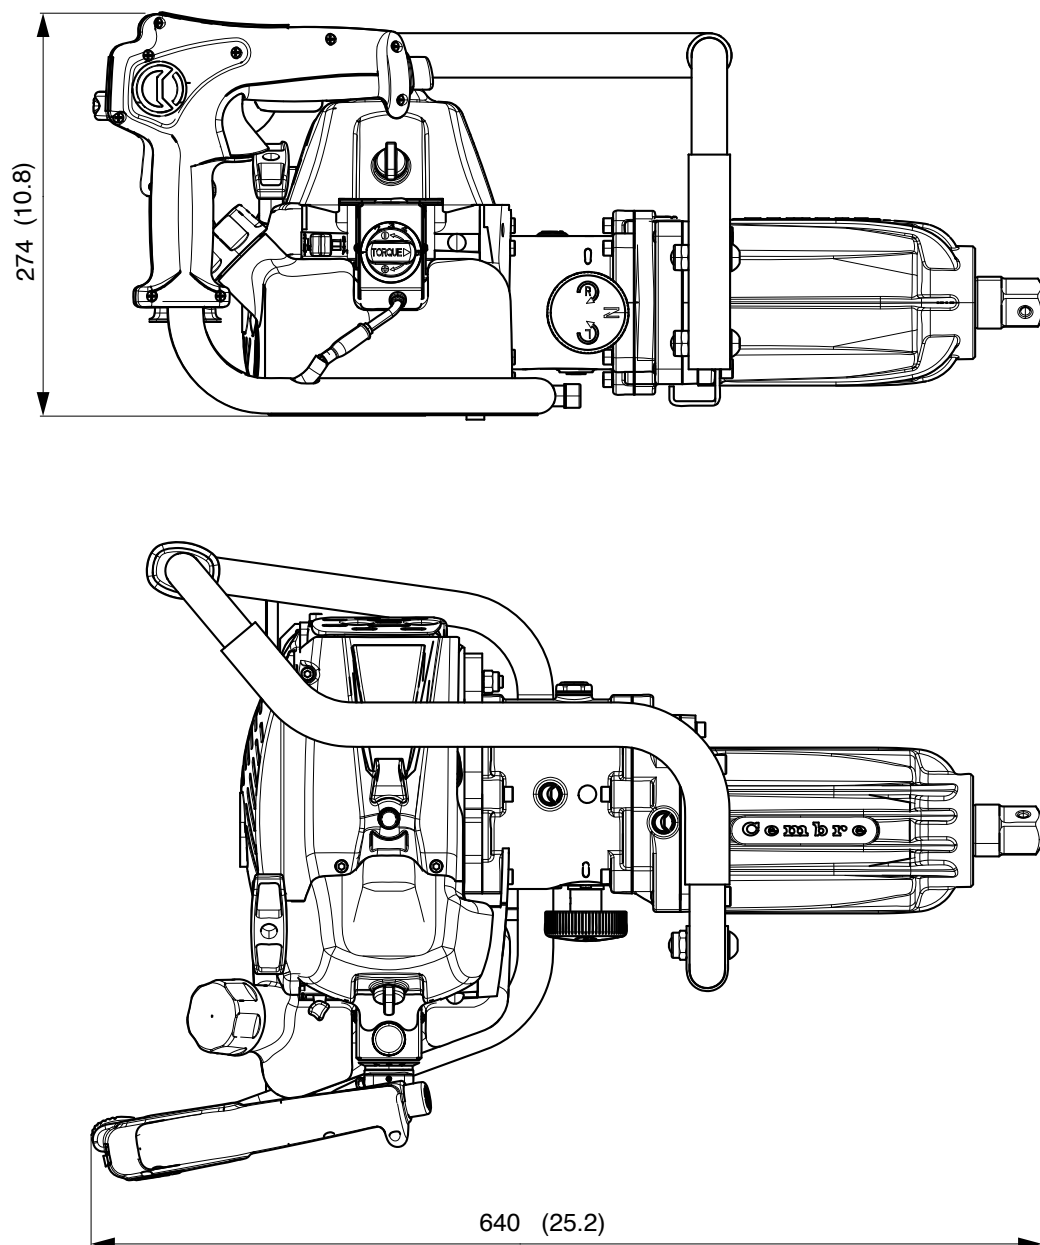

FIG. 16
- **Dimensions:** refer to Fig. 16, page 71